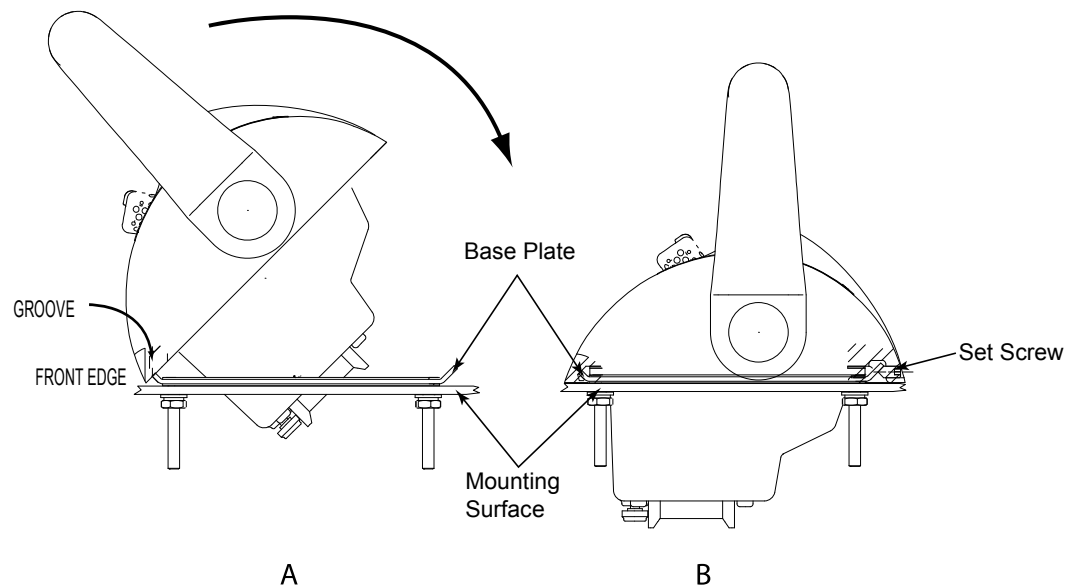

Figure 11. Control Head Installation
4. Tilt the control head as shown in A in Figure 11 and engage the groove internal to the control head.